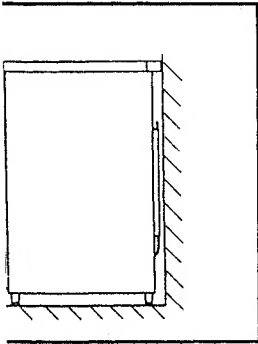

FIG 2
3. Your appliance will be heavy when loaded with food and must therefore be stood on a strong firm floor which should also be level. Adjust the level by screwing out the appropriate level adjusters in the feet using your fingers or a suitable spanner (see fig. 2).